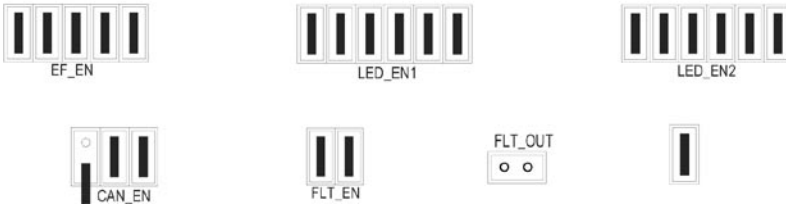

Figure 1: DEMOACEX Default Settings
- Ensure the DEMOACEX is properly configured; refer to Figure 1 above.